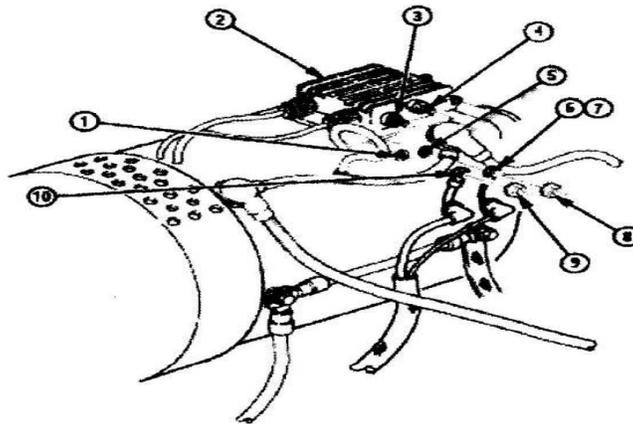

Figure 57
(11) Remove nut (8) from yellow terminal (4) on regulator (2) as shown in Figure 57. Retain all parts.
(12) Secure lead 2A (6) or lead 2C (7) to yellow terminal (4) on regulator (2) with existing nut (8) and washer (5). Tighten nut (8) to 20 lb-in (2 N·m). As shown in **Figure 57**.
(13) Remove nut (9) from red terminal (3) on regulator (2) as shown in **Figure 57**. Retain all parts.
(14) Secure lead 568 (10) to red terminal (3) on regulator (2) with existing nut (9) and washer (1) as shown in **Figure 57**. Tighten nut (9) to 35 lb-in (4 N·m).